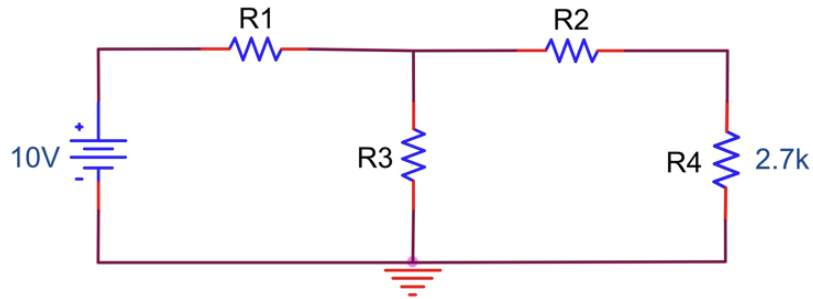

Figure 7.2
4. For the circuit shown in Figure 7.2, choose resistor values that will maximize the power transferred to the $2.7\text{k}\Omega$ resistor.